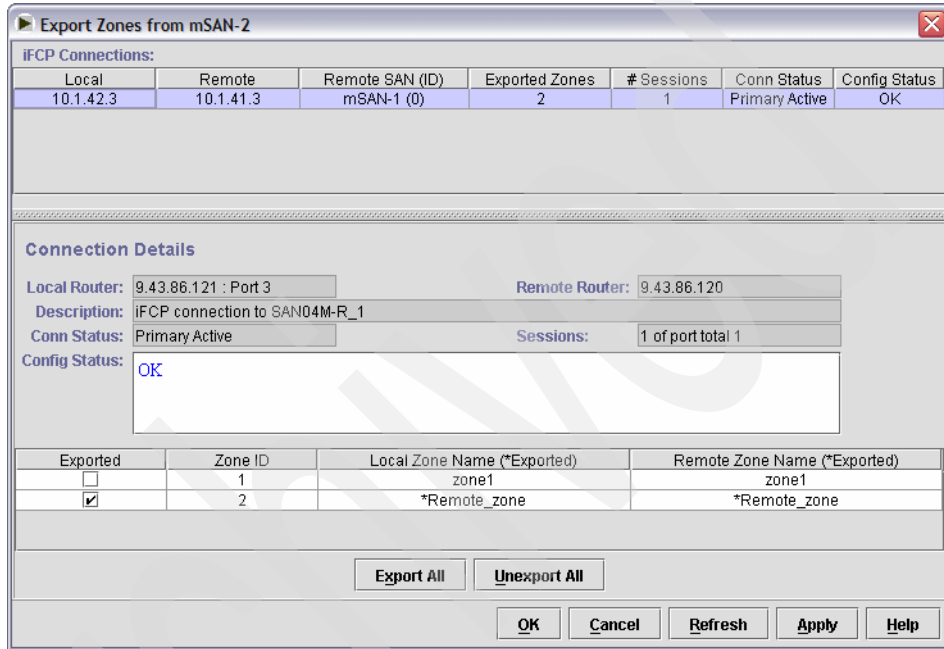

Figure 17-84 Exporting Remote\_zone from mSAN-2
- d. Export the new zone to the other router, as shown in Figure 17-84: